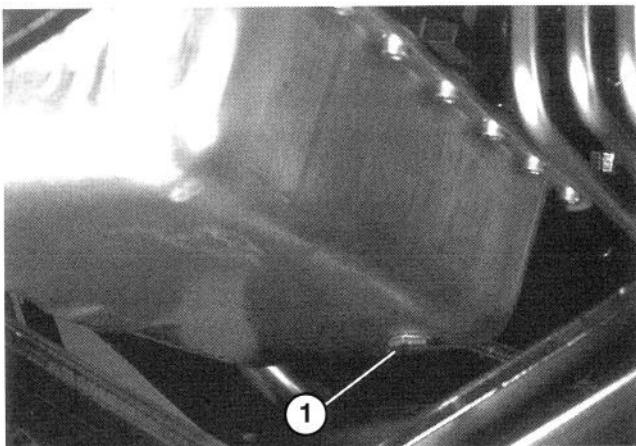

Figure 45
ENGINE OIL AND FILTER (Fig. 45–46)
1. Remove drain plug (Fig. 45) and let oil flow into drain pan. When oil stops, install drain plug and new plug seal, Part No. 74-7850.